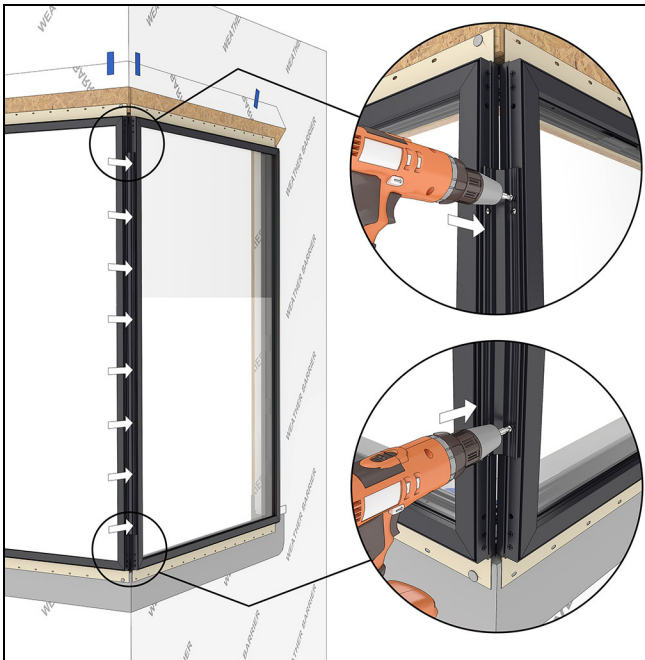

Figure 44
8. Using the supplied #8 x 5/8" pan head self tapping screws, fasten the bracket to the right window. See Figure 44.